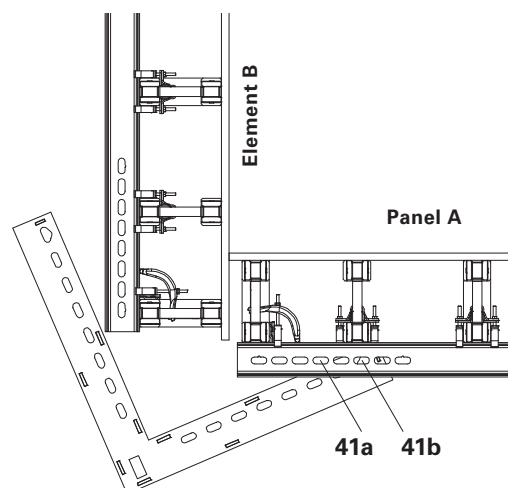

Fig. B4.03
(Fig. B4.03)
3. Install ties according to plan. (Fig. B4.03/B4.04)